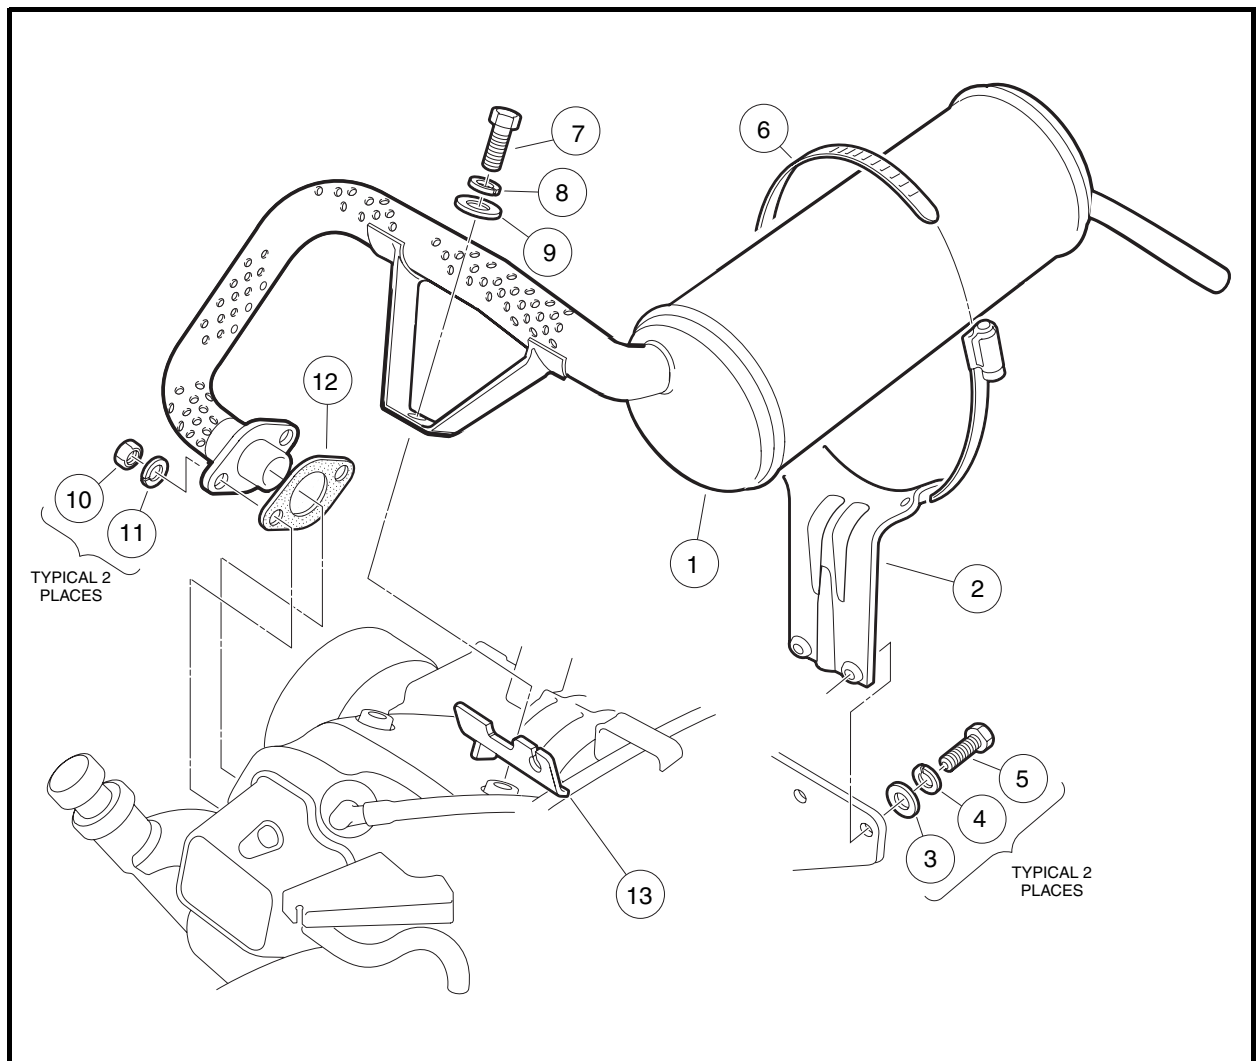

Figure 17-1 Exhaust System
3. Remove the muffler clamp (6) from the muffler (1) and clamp bracket (2) (**Figure 17-1, Page 17-2**).
4. Remove the hex-head cap screw (7), lock washer (8), and flat washer (9) from mounting bracket. Retain the governor cable bracket (13).
5. Remove the hex nuts (10) and lock washers (11) from the manifold.
6. Remove the muffler (1) from the vehicle.
NOTE: Any time the muffler is removed from the vehicle, install a new muffler clamp (6) (CCI P/N 1017689) and muffler gasket (12) FE290 (CCI P/N 1015330) (**Figure 17-1, Page 17-2**).
1. Loosely secure muffler (1) to muffler bracket (2) with clamp (6).
2. Place a new gasket (12) on the cylinder block exhaust stud bolts.
3. Attach muffler manifold with lock washers (11) and hex nuts (10) and finger tighten.
4. Loosely secure muffler (1), mounting bracket, and governor cable bracket (13) using hex-head cap screw (7), lock washer (8), and flat washer (9).
5. Tighten manifold hex nuts (10) to 11 ft-lb (14.9 N·m).
6. Tighten the hex cap screw (7) to 14 ft-lb (18.9 N·m).
7. Tighten the muffler clamp (6) to 40 in-lb (4.5 N·m).